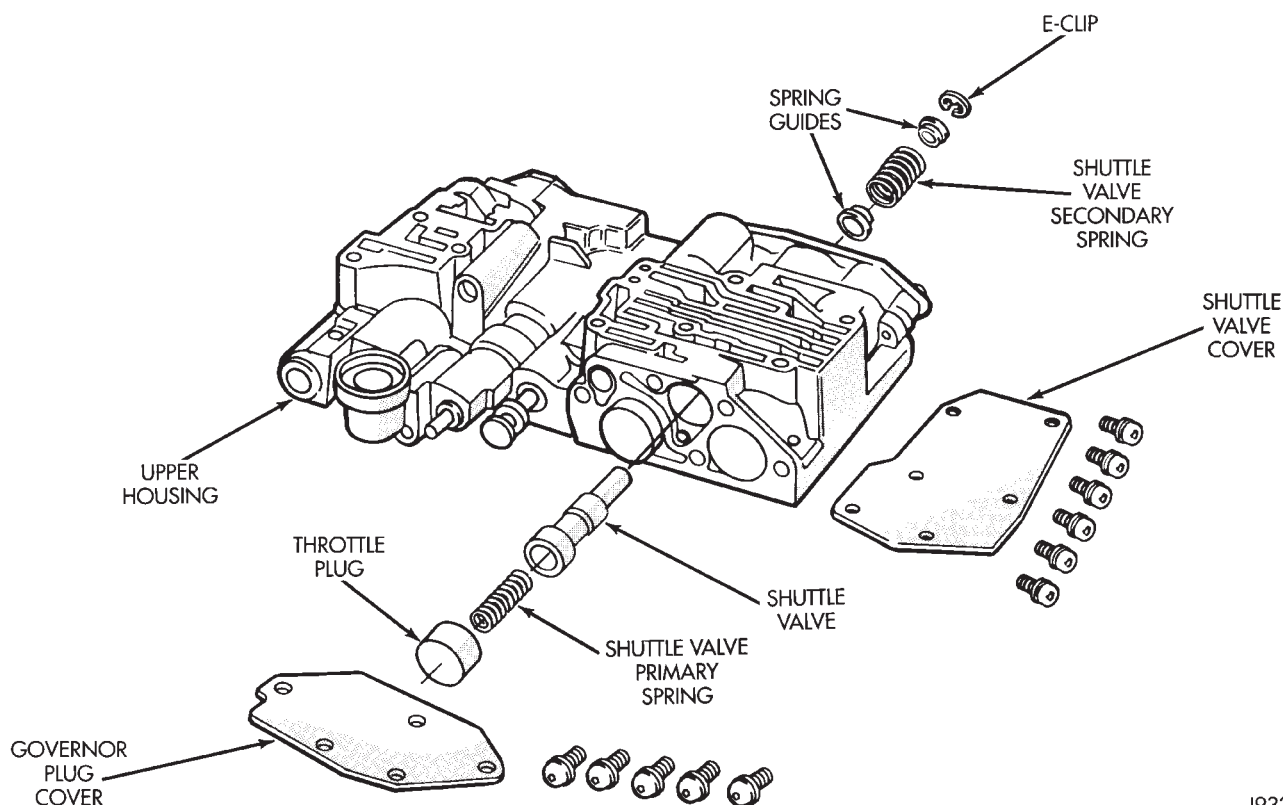

Fig. 121 Shuttle And Boost Valve Components
(3) Remove governor plug and shuttle valve covers (Fig. 121).
(4) Remove throttle plug, primary spring, shuttle valve, secondary spring, and spring guides (Fig. 121).
(5) Remove boost valve retainer, spring and valve if not previously removed.